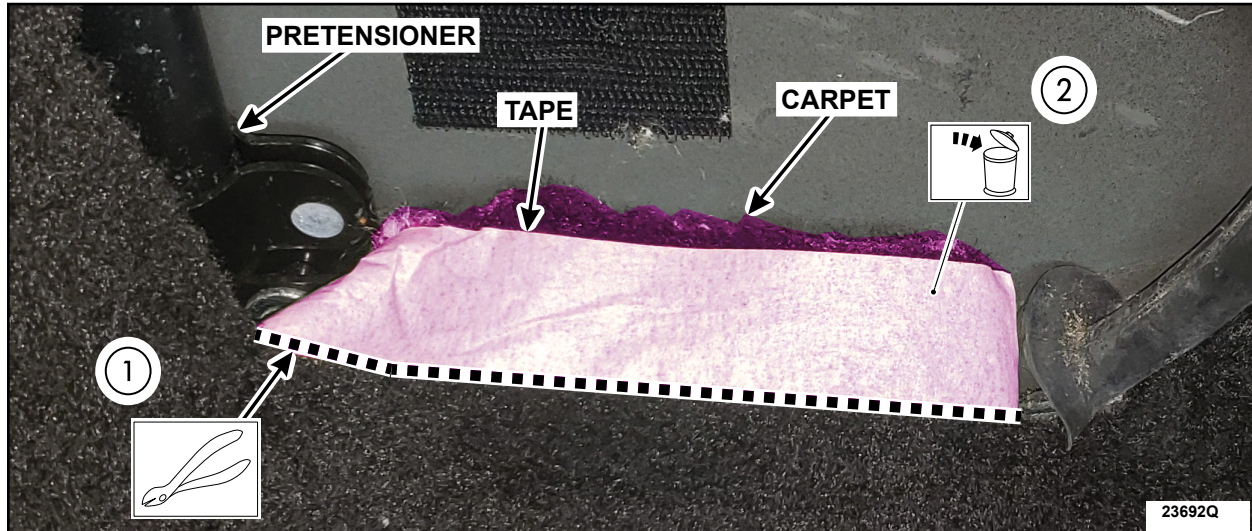

FIGURE 4
13. On both sides, carefully cut the carpet along the tape (1). Remove and discard the cut section of carpet (2). See Figure 4.